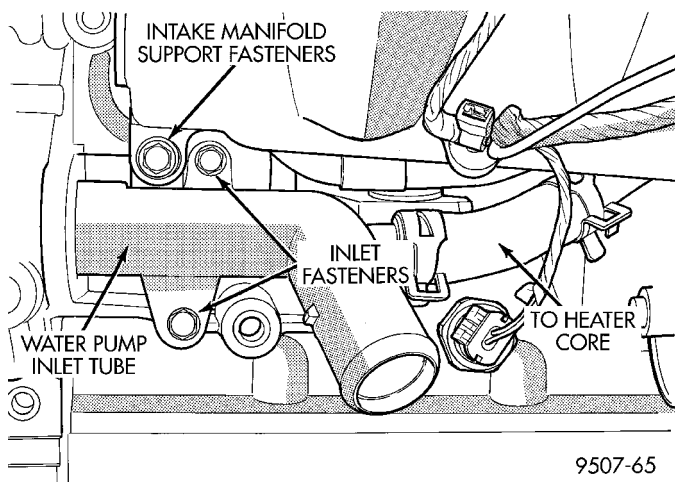
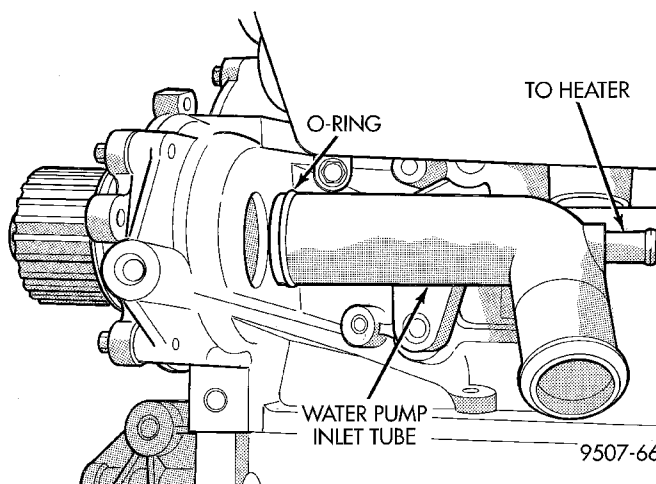

Fig. 16 Water Pump Inlet Tube Hose Connections
Fig. 17 Water Pump Inlet Tube
- (1) Drain cooling system. Refer to procedure outlined in this section.
- (2) Remove upper radiator hose to access the hose connections at the inlet tube.
- (3) Remove lower radiator hose and heater hose from the inlet tube (Fig. 16).
- (4) Remove the two fasteners that hold the inlet tube to the block and one fastener that holds the intake manifold to inlet tube.
- (5) Rotate tube while removing the tube from the engine block (Fig. 17).
- (1) Inspect the O-ring for damage before installing the tube into the cylinder block (Fig. 17).
- (2) Lube O-ring with coolant and install into the cylinder block opening.
- (3) Install two fasteners to the engine block and the one fastener to the intake manifold. Tighten fasteners to 12 N·m (105 in. lbs.).
- (4) Connect lower radiator hose and heater hose to inlet tube.
- (5) Install upper radiator hose.
- (6) Fill cooling system. Refer to procedure outlined in this section.
- (7) Pressure system to 104 kPa (15 psi) to check for leaks.